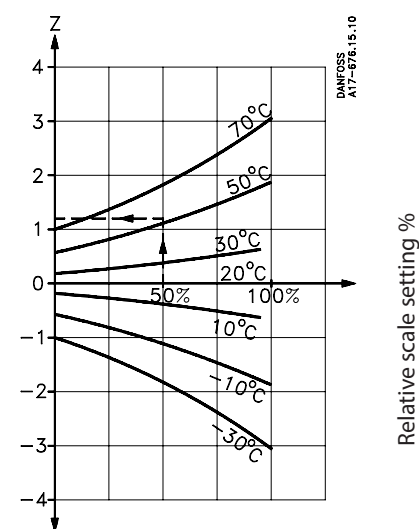

Fig.11c
Z can be found from fig. 11c, while a is the correction factor from the table.
Factor for scale deviation (see fig. 11c): + 1.2 (Z)